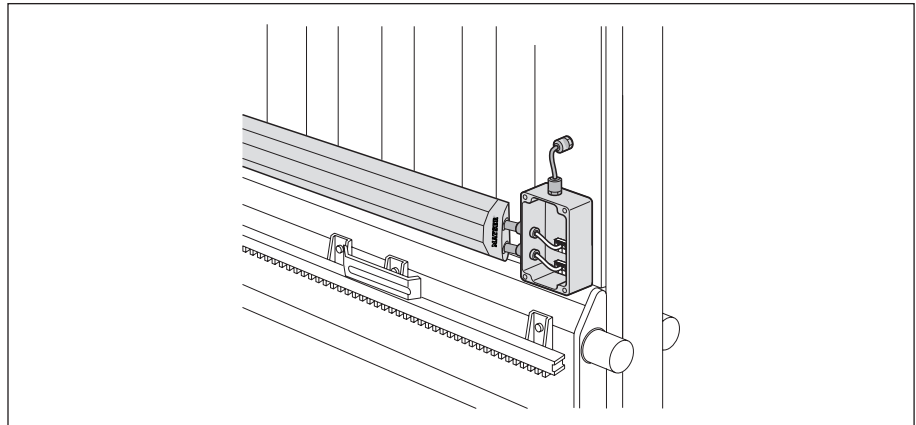

Fig. 6-7: Installing tuning box (example)
6. Feed ends of the antenna cable and of the Safety Edge cable through the screwed cable glands (see Fig. 6-7).